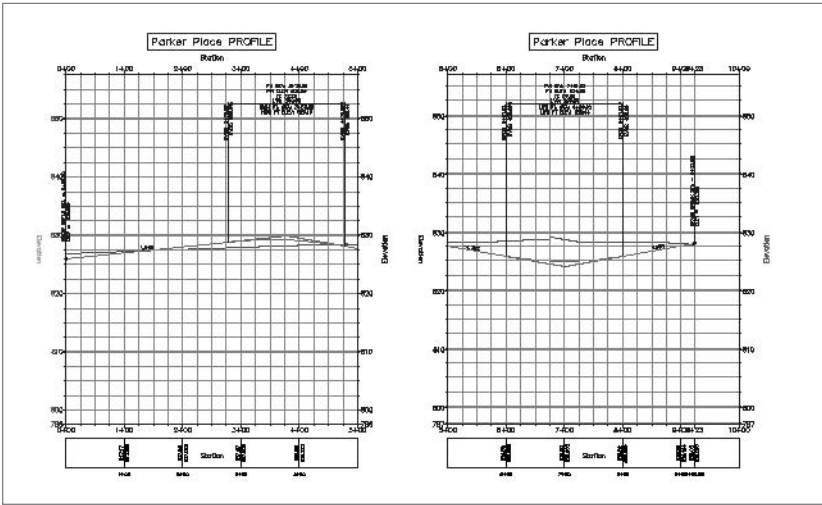

Figure A.66
3. In the Select Alignment drop-down list, select Parker Place, and in the Profile View Style drop-down list, select the Full Grid option, as shown in Figure A.66. Click Next.